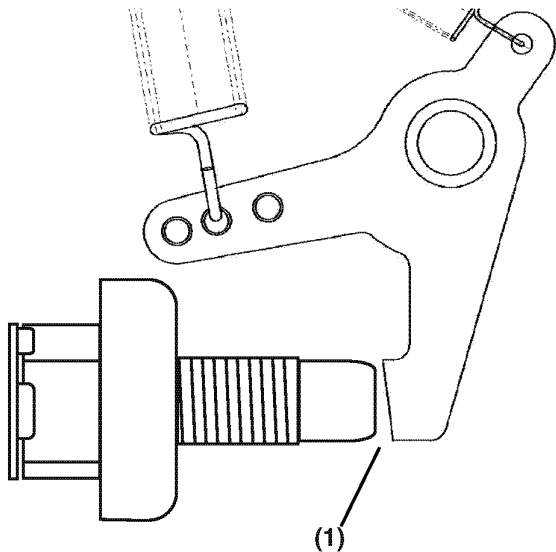

Figure 9-27
11. Rotate the speed control lever fully clockwise until it stops. Before proceeding, check that the tip of the fuel limiter is not touching the control lever (**Figure 9-27, (1)**).